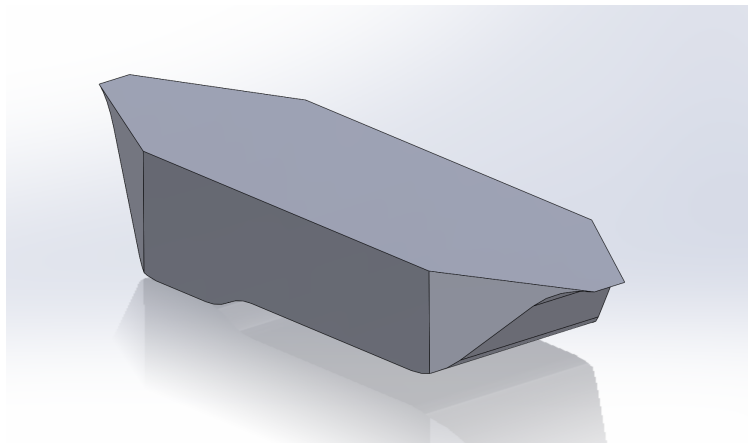

Figure 1.21: Sample Payload Bay
1. Export the projection of the top or side (or both) profiles from SolidWorks into .dxf files, the steps are demonstrated with the payload bay shown in fig 1.21 below.